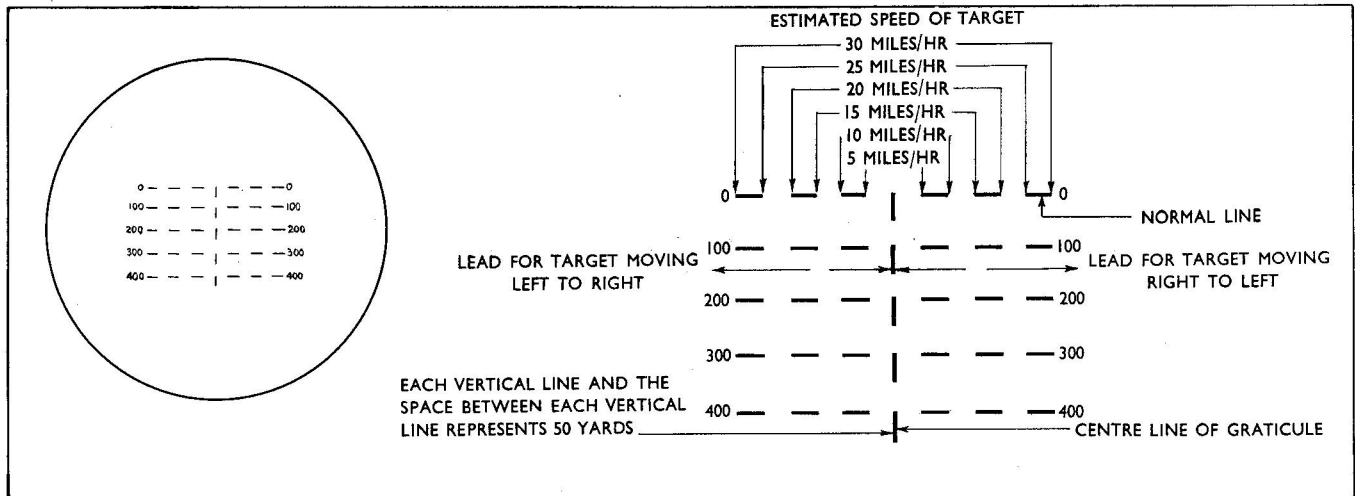

Fig. 11 Ladder Type Graticule (US)
19.1. Ladder (Fig.11) The position of the ladder graticule on U.S.A. Launchers differs from that on U.K. Launchers. On U.S.A. launchers the horizontal line marked 200 is in the centre of the sight. On U.K. launchers the horizontal line marked 0 is in the centre of the sight. The aiming and sight setting procedure is the same with both types.